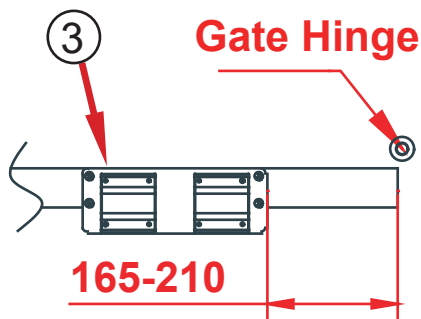

Fig 2
1. Installed the (3) fixing base on the top of 1st leaf door(closing to the upper hinge), make fixing base parallel to the gate side line besides of upper hinge, the distance from gate side should be 165-210mm as the Fig 2.